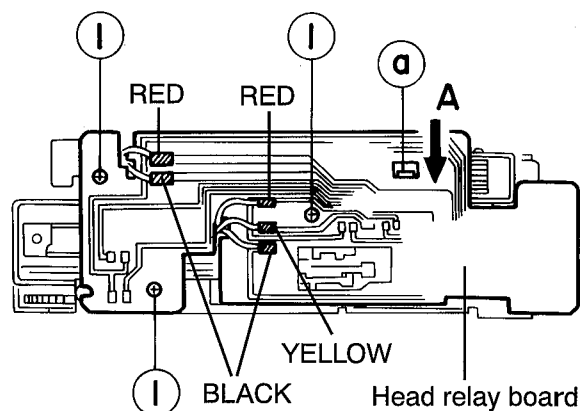

Fig. 1
■ Removing the Head Relay Board (See Fig. 1)
3. Remove the three screws ① securing the head relay board.
4. Shift the interlocking section ④ securing the head relay board in the direction shown by the arrow "A" to remove the printed circuit board.